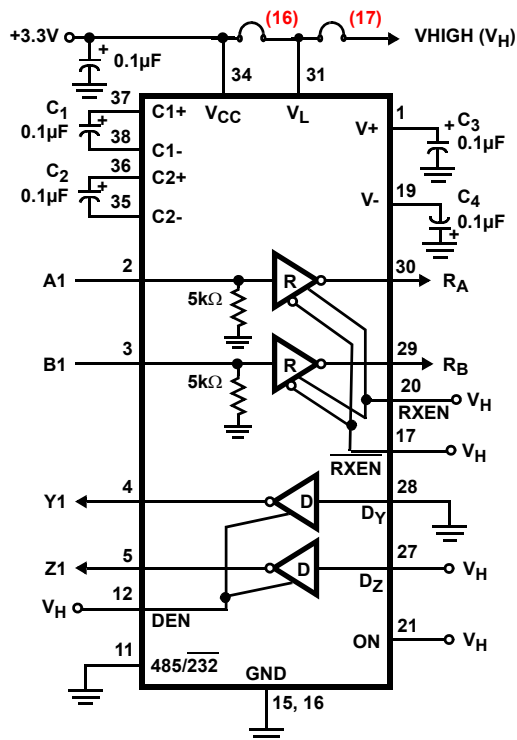

FIGURE 1. DEFAULT RS-232 CONFIGURATION
“A2 (485/232)” (7) to the “LOW” position. If RS-485 termination resistors (“R₇” or “R₉”) were added, ensure that they have been removed. Note that the RS-232 data rate is fixed at 400kbps, so the “SPB” (9) jumper has no affect (connect it high to minimize SHDN I_{CC}), and that the “SLEW” pin becomes the second driver input, DZ. Figure 1 illustrates the ISL3331 configuration in this mode.
In the default configuration of Figure 1, RB (measure at the “RA1 (RB)” test point to the left of jumper (14)) and RA (measure at the “RB1(RA)” test point to the right of jumper (1)) are high due to the A1 and B1 5k Ω input resistors to GND.